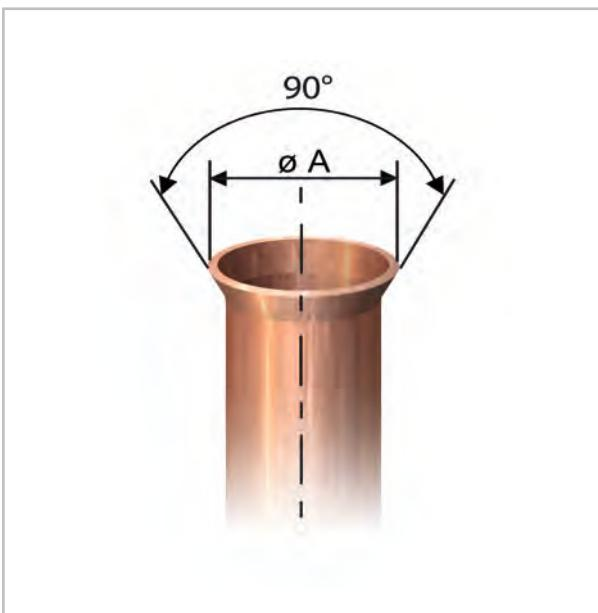

Fig. 39: Correct flange shape
9. Verify that the shape of the flange is correct (Fig. 39).